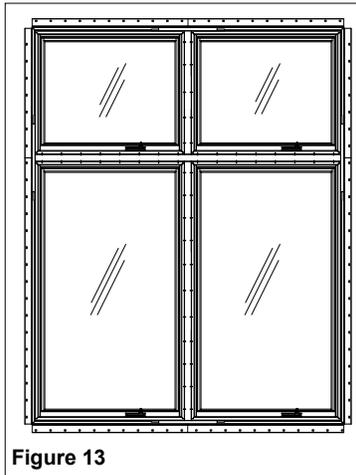

Figure 13
- Set upper and lower mullied units in the desired configuration (interior facing up). Clamp units together on interior near each end of the mullion (use scrap blocks to protect interior wood frame members). Slide horizontal aluminum mulling pin into nailing fin kerf. Make sure mulling pin is recessed at 1/4" on each end to allow for sealant application later. Insert remaining mull reinforcement boards between upper and lower assemblies. Fasten interior wood frame members with 1/2" x 1/2" 16 gauge staples spaced every 4" (102). See figure 13.